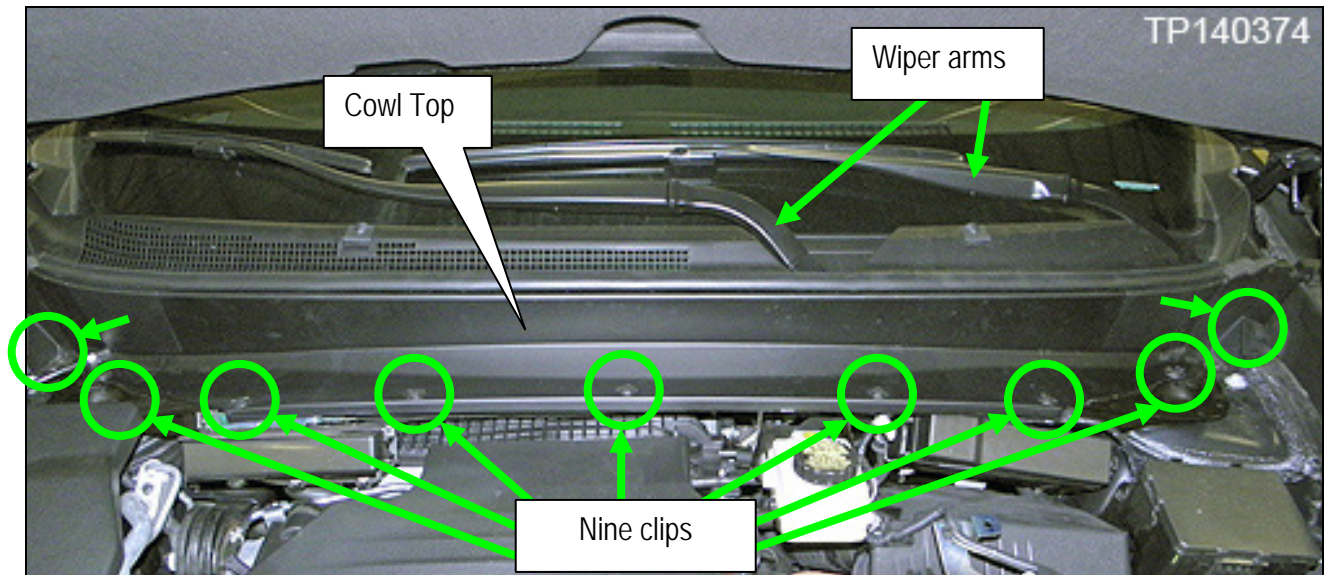

Figure 4
8. Remove both of the wiper arms (Figure 4).
9. Remove nine clips from the Cowl Top (Figure 4).